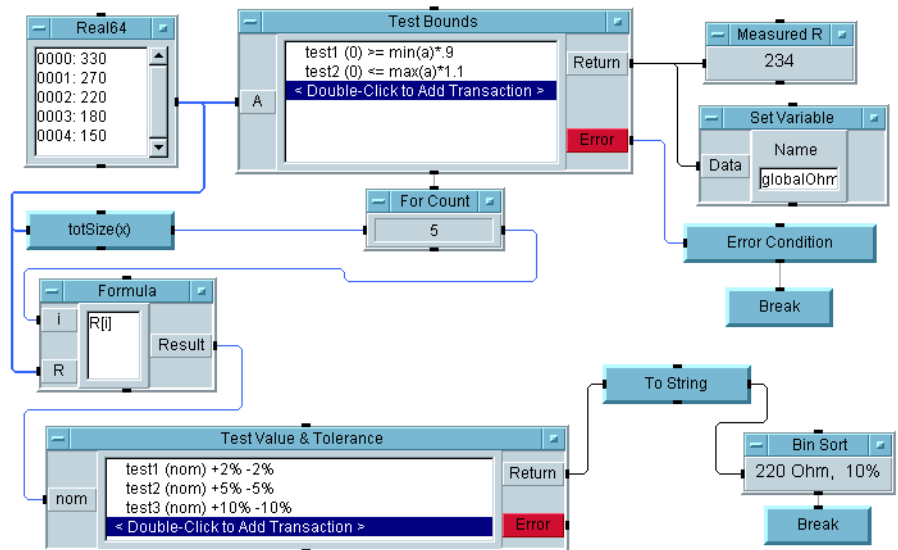
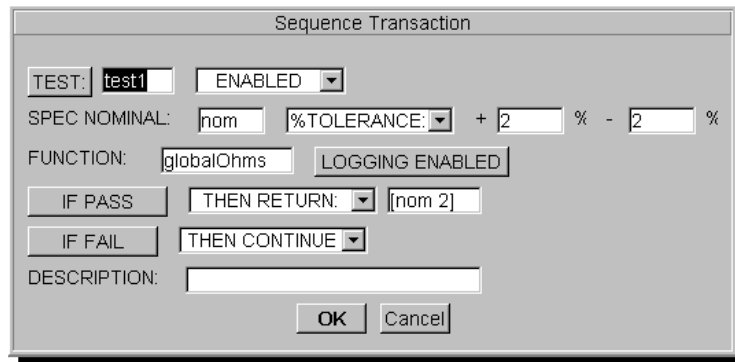

Figure 14-14. Improved Bin Sort Example
Figure 14-17. `globalOhms` Transaction
Although this approach is simple, it is not very efficient. You would need to create quite a large number of sequence transactions to test several resistance values, with three tolerances in each case. Figure 14-14 shows an improved version of the "bin sort" example.
Since the UserFunction `simResist` is only called once, you can replace it with a call to a different UserFunction. The example (`manual46.vee`, Figure 14-14) contains a second UserFunction, called `measResist`, which uses a Panel Driver to call an HP 3478A Digital Voltmeter configured for resistance measurements. If you have an HP 3478A meter, connect it via GPIB, change the `FORMULA` field in `test1` to the expression `measResist()`, and run the program.
- Regardless of whether simulated or measured resistance values are taken, the Test Bounds return value is displayed and is set as a global variable (`globalOhms`). For example, the three transactions in the Sequencer labeled `Test Value & Tolerance` (Figure 14-14) each call this global variable using the expression `globalOhms`. Figure 14-17 shows the first transaction expanded.